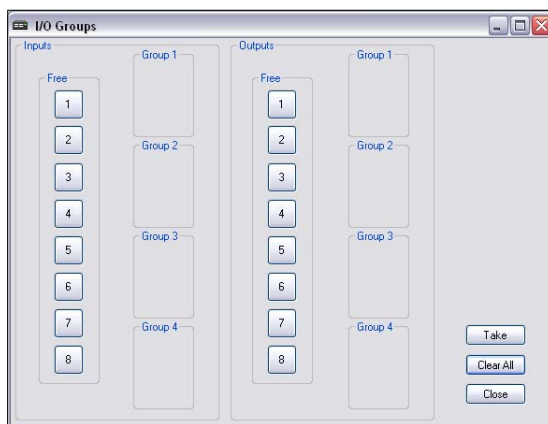

Figure 5-10 — ISM 824 I/O Group Settings menus – all groups cleared
1. Click on the menu to open a new window. This window (see figure 5-10) shows the free (ungrouped) input and output buttons, and eight grouping boxes (input groups 1-4, and output groups 1-4).